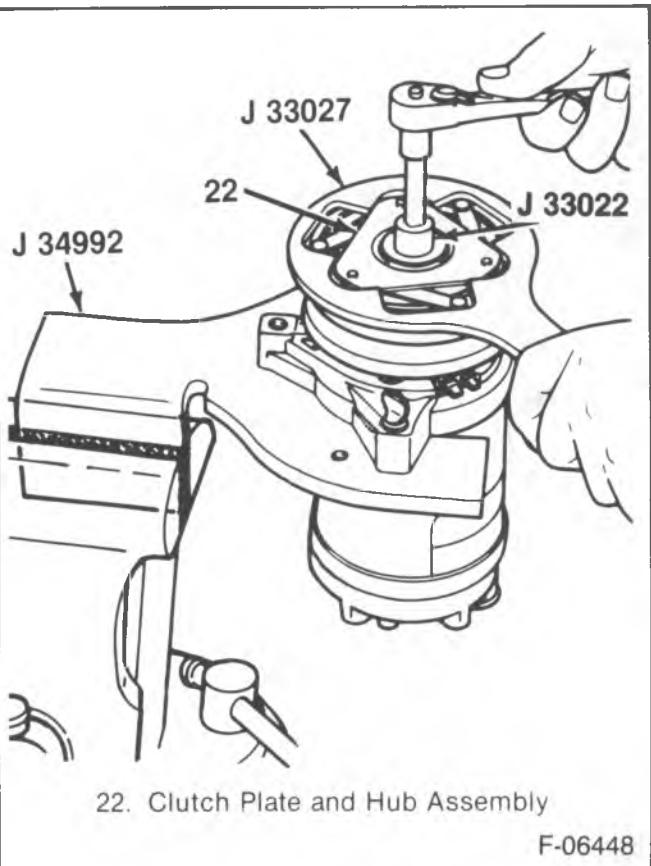

Figure 4—Removing the Shaft Nut
1. Shaft nut (21) using J 33022 (figure 4).
- Hold the clutch plate and hub assembly (22) using J 33027.
2. Clutch plate and hub assembly (22).
- Thread J 33013-B into the clutch plate and hub assembly (22).
Install or Connect (Figures 4, 12, 13, 14 and 15)